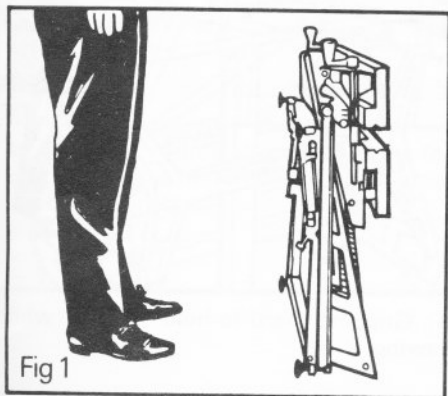

Fig 1
- 1 Start with the unit in a vertical position with the vise bars away from the body, see Fig. 1.